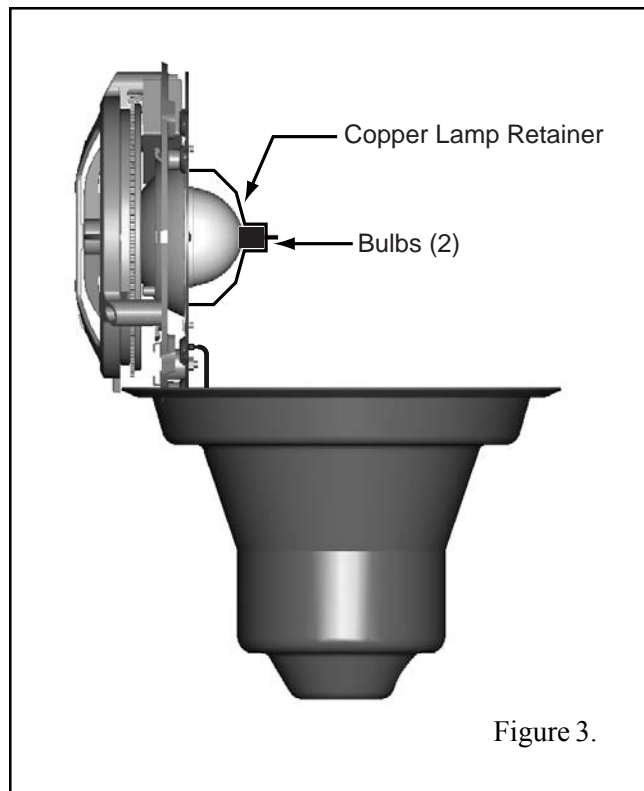

Figure 3.
- a. With a 1/4" nut driver, remove 4 bulb plate retainer nuts and place in a secure location, see Figure 3.
- b. Lift color wheel/bulb assembly to clear bolts, then swing up and rest vertically in light fixture to provide bulb access, see Figure 3.